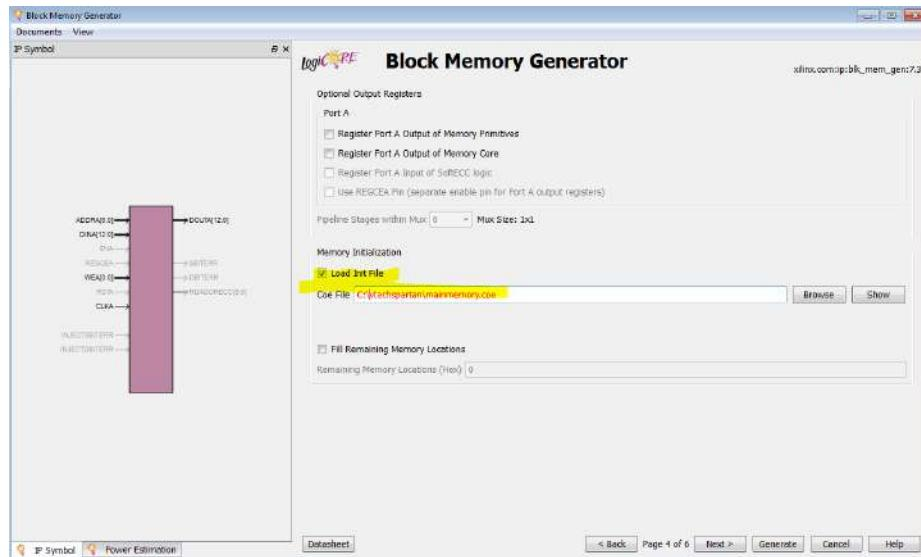

Figure 5-23 Add memory initialization file
4. On page 4 (Memory Initialization), check Load Init File and browse to the *mainmemory.coe* file in your *vtachspartan* directory, as seen in Figure 5-23.